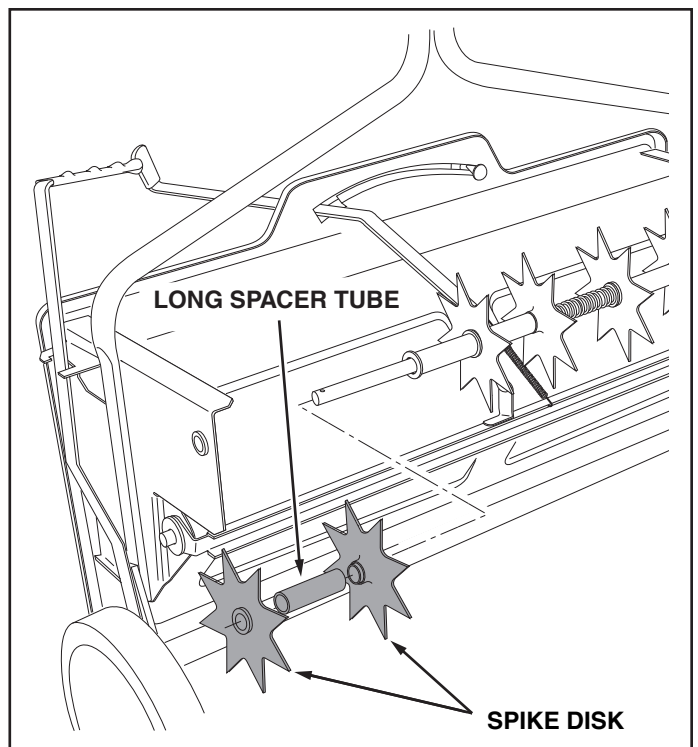

FIGURE 19
- Place two spike disks, separated by a long spacer tube, onto the shaft. Fit the long spacer tube onto the ends of the flanged bearings in the disks. See figure 19.